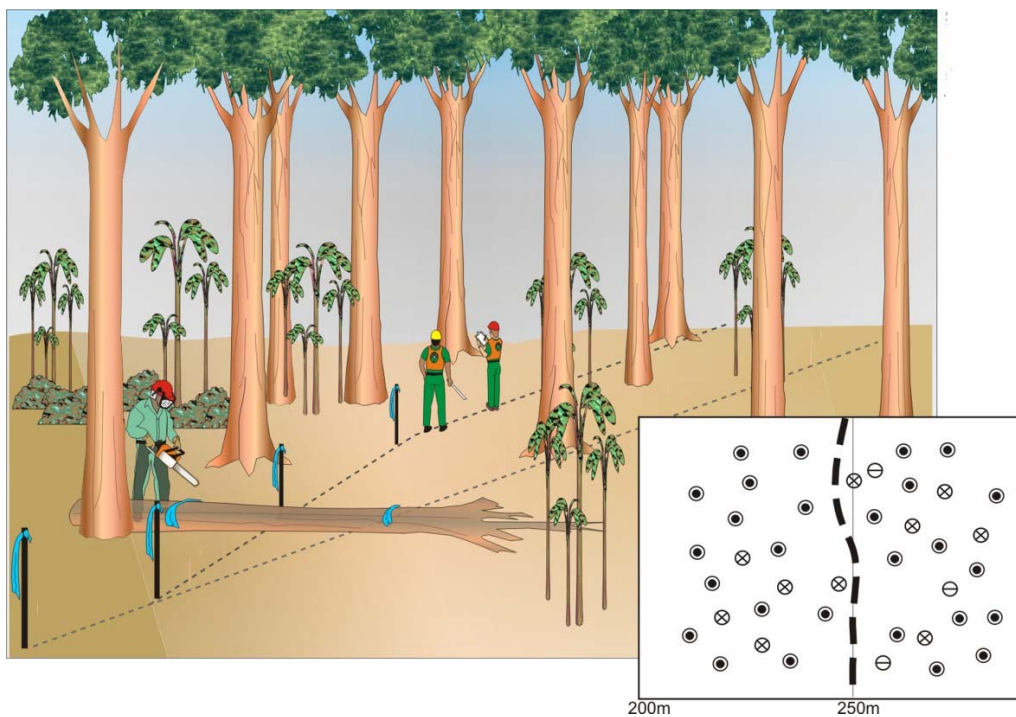

Figure 41 Verifying alignments of skid trails on the ground, flagging skid trails and indicating where fallen trunks should be crosscut
### Demarcation of the alignment of skid trails (Figure 41)
- Cut fallen tree trunks ('takubas') along the main and branch trails (Figure 41)